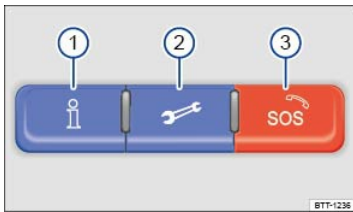
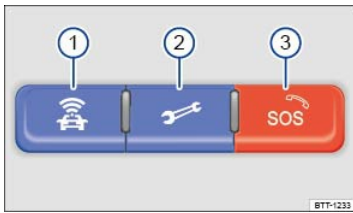

Fig. 21 In the roof console: 3-button module to access VW Car-Net service operators (Version 1).
Fig. 22 In the roof console: 3-button module to access VW Car-Net service operators (Version 2).
You can access VW Car-Net Security & Service via your VW Car-Net iPhone® or Android® app (text and data rates apply) and the VW Car-Net Security & Service website (<http://www.vw.com/carnet>). If you have a question or would like to subscribe, please either press the ⇒ Fig. 21① or ⇒ Fig. 22① button in your vehicle or contact the VW Car-Net Response Center at 1-877-820-2290. For more information or to log on to your VW Car-Net Security & Service account, visit <http://www.vw.com/carnet>.
The Manual Emergency Call service and all other VW Car-Net Security & Service features require a trial or paid subscription. To begin your trial or paid subscription, authentication and activation are required. For more information, please visit the website (<http://www.vw.com/carnet>), press the ⇒ Fig. 21① or ⇒ Fig. 22① button in the 3-button module in your vehicle or contact the VW Car-Net Response Center at 1-877-820-2290.
⇒ Fig. 21 or ⇒ Fig. 22	Function